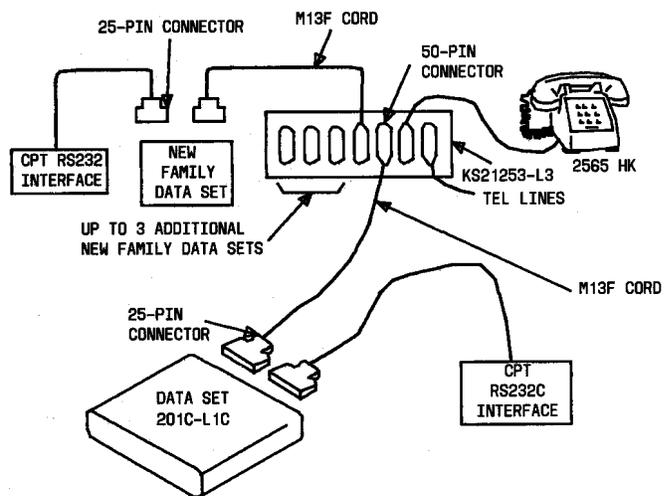
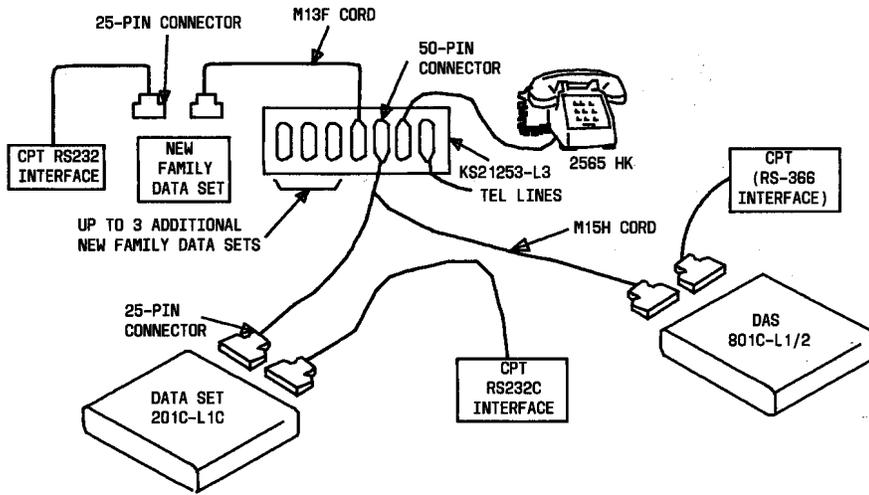

Fig. 8—Single Data Set With Shared Tel Set
Fig. 9—Single Data Set With Shared Tel Set Using M15H Cord
4.05 Single Data Set With Shared Telephone Set: If DS 201C-L1C shares the telephone set with other DSs 201C or other new family data sets, the connections are made as shown in Fig. 8. Figure 9 shows this connection made with an 801C-list type using an M15H cord. Figure 10 shows the internal wiring of the KS-21253-L3 adapter used with this arrangement.